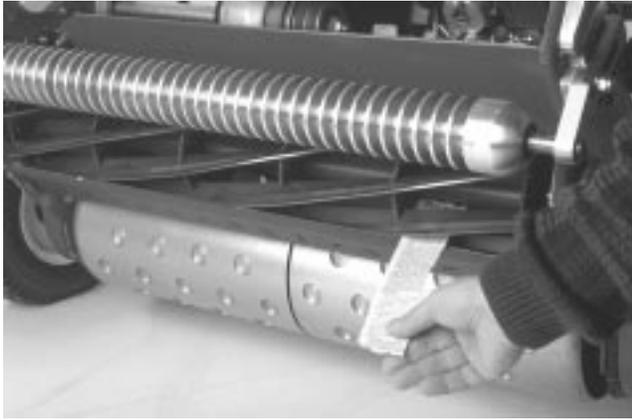

Figure 12
4. On one end of the front side of the reel, insert a long strip of newspaper between the reel and bedknife (Fig. 12). While slowly rotating the reel forward, turn the bedbar adjusting screw clockwise (on the same end of reel, one click at a time, until the paper is pinched lightly, when inserted from the front, parallel to the bedknife, which results in a slight drag when paper is pulled (Fig. 11)).
6. After the adjustment is accomplished, check to see if the reel can pinch paper when inserted from the front and cut paper when inserted at a right angle to the bedknife (Fig. 12). It should be possible to cut paper with minimum contact between the bedknife and the reel blades. Should excessive reel drag be evident (more than 7 in.-lb. (0.79 N·m)), either backlap or grind the cutting unit to achieve the sharp edges needed for precision cutting; refer to the Toro reel sharpening manual.